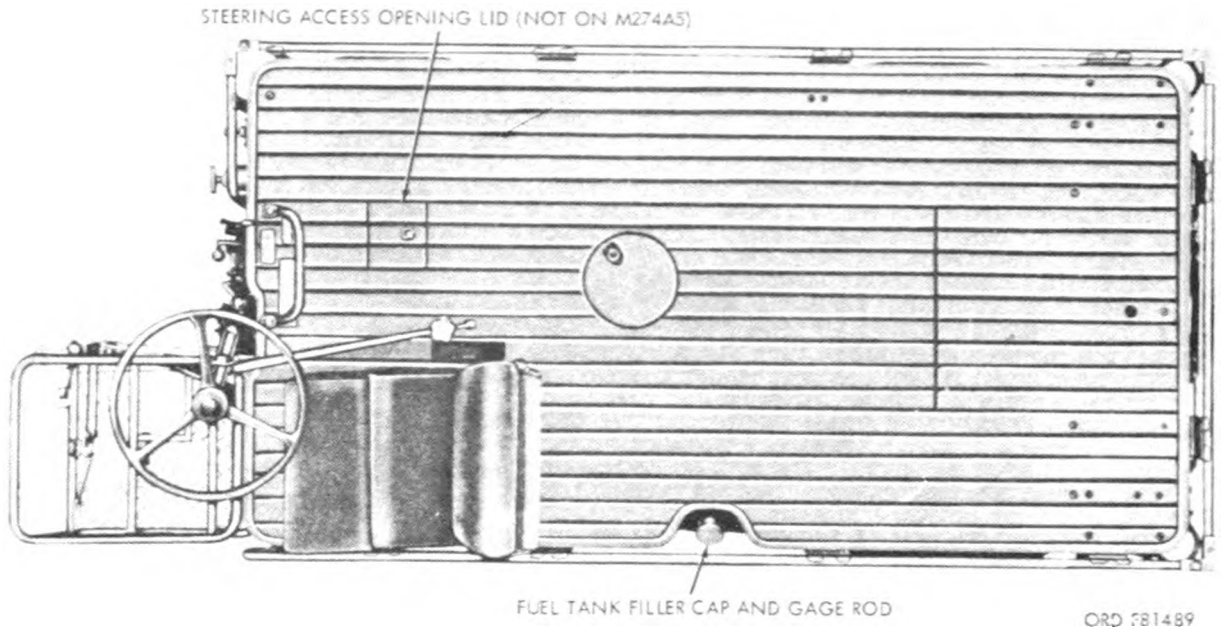

Figure 1-3. 1/2 ton, 4 x 4, platform utility truck—top view.
b. Fuel Tank and Lines. The fuel tank (fig. 1-8) is located on the left side of the vehicle and has a capacity of eight gallons. The fuel filler cap and gage rod (fig. 1-3) has a vent valve within the cap. This valve is to be closed only when vehicle is turned upside down or on its side. At the bottom of the fuel tank, a drain